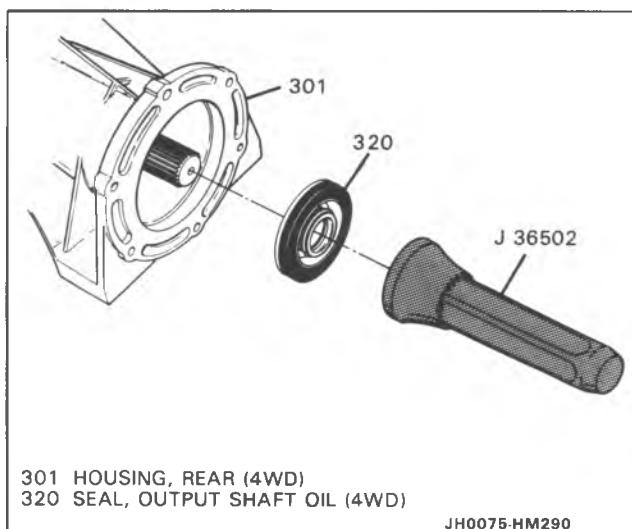

Figure 89 4WD Oil Seal Install
- 6. NEW snap ring (43) (2.00mm thickness).
- 8. NEW spiral roll pin (42).
- 9. 4WD output shaft oil seal (320) using J 36502 (Figure 89).